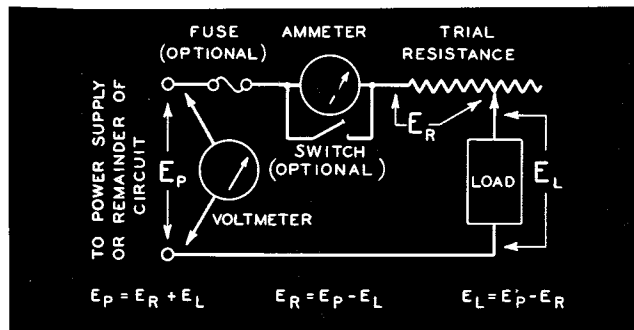
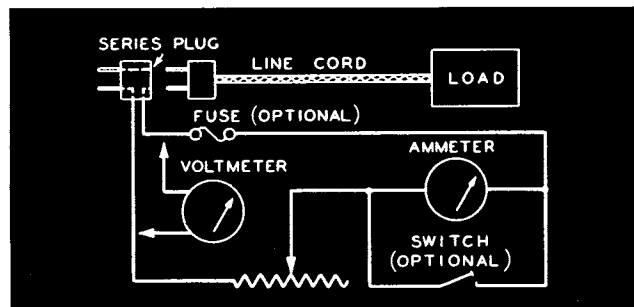

Fig. 6: Typical Test Circuit for Use in Determining Resistance and Current.
Fig. 7: Typical Test Circuit Using a Series Plug for Connection.
**Circuit:** Fig. 6 illustrates a typical test circuit (which may be only part of a larger circuit). The power supply may be the commercial 115 V. or 230 V. outlet, batteries or a generator. The load may be any device such as a motor, generator field, lamp, or heater. The adjustable trial resistance may be an Ohmite rheostat, or it may consist of a number of Ohmite fixed resistors, or one or more Ohmite adjustable Dividohm resistors. Fig. 7 illustrates a convenient way of inserting the trial resistance and ammeter by means of a series plug (such as Hubbell No. 7772).
Method: The relay, a trial resistance (Ohmite "Dividohm" or rheostat) and a meter are connected in series as in Fig. 6. The resistance is then varied until the relay operates satisfactorily, with the voltage measured across the relay checking at 110V. Typical measured data might be as follows:
Calculations similar to those given in Example 2, show that approximately 10 ohms will be needed. The circuit in Fig. 6 or Fig. 7 can be used. The trial resistance is increased step by step and time allowed for the oven temperature to stabilize itself until the desired operating temperature is reached.
*Circuit:* Fig. 6 or 7. *Meters:* From the name plate data on the motor, it is found that the full load current is 1.5 amperes.